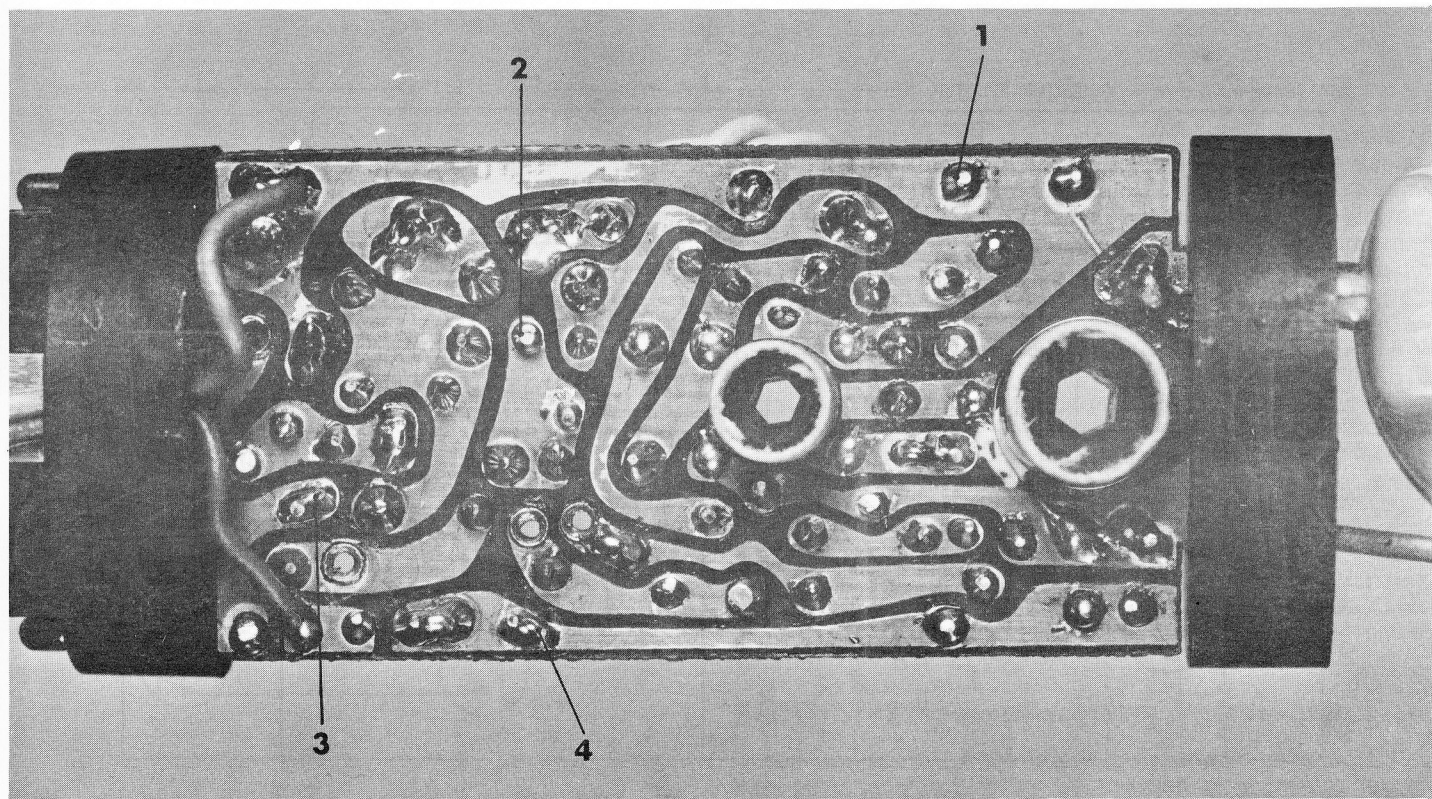

FIG. 3B BOTTOM VIEW, "B" CONFIG. TRANSROC, MIC. MODE
- 12B. () Inspect the bottom of the PC board for poor solder joints, solder bridges, etc. It should look like Figure 3B.